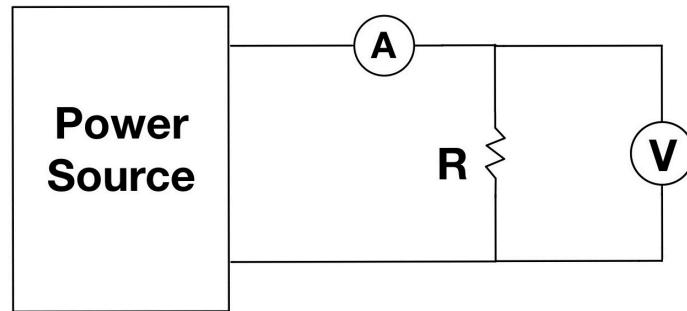

Figure 2: Circuit diagram of the experimental setup.
1. Connect the ammeter, voltmeter, and power supply to the chosen resistor as shown schematically in Figure 2). *Ask the TA if you're in doubt.* Note that Figures 3a and 3b show the visual representation for the set up and the closeup of the power supply indicating appropriate terminals for the connection.